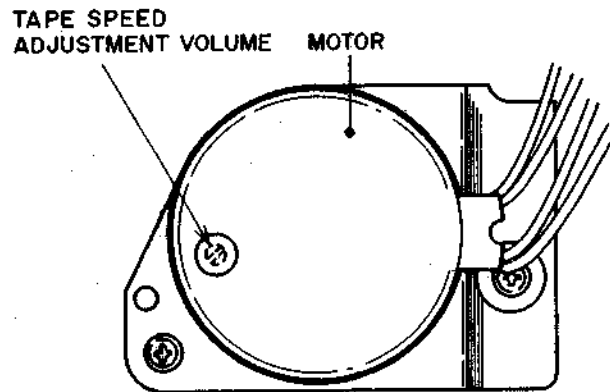

Fig. 7 Tape Speed Adjustment
4. TAPE SPEED ADJUSTMENT (Refer to Fig. 7)